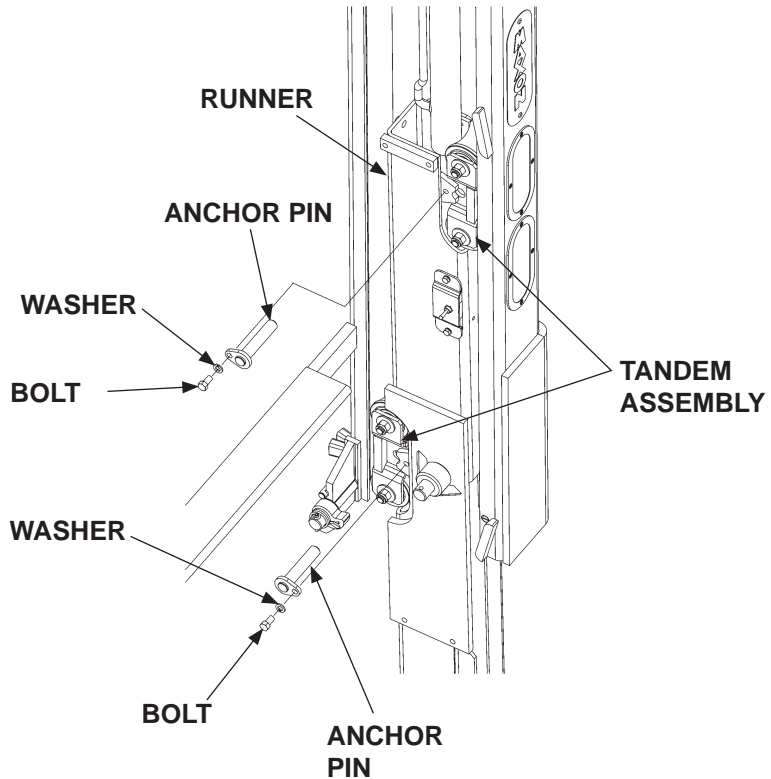

FIG. 26-1
9. Remove tandem assemblies by loosening and removing bolts and washers from anchor pins (FIG. 26-1). Remove the anchor pins (FIG. 26-1) holding tandem assemblies to runner. Remove the tandem assemblies (FIG. 26-1).